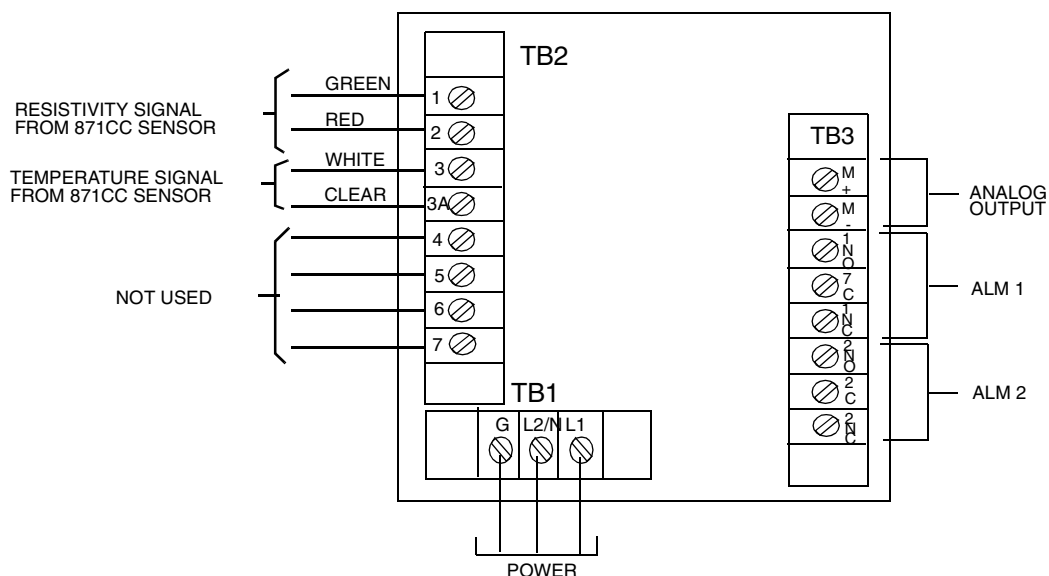

Figure 10. Plastic Enclosure Rear Panel Wiring
2. Connect ALM 1 and ALM 2 alarm wires to terminal block TB3 as shown in Figure 10. Also see “Wiring of Alarms” on page 19.
3. Connect wires from external circuit for analog output to terminals TB3 (M+) and TB3 (M-). Refer to Figure 10.
5. Connect sensor wires to terminal block TB2 as shown in Figure 10.
6. Connect power wires to terminal block TB1 as shown in Figure 10.